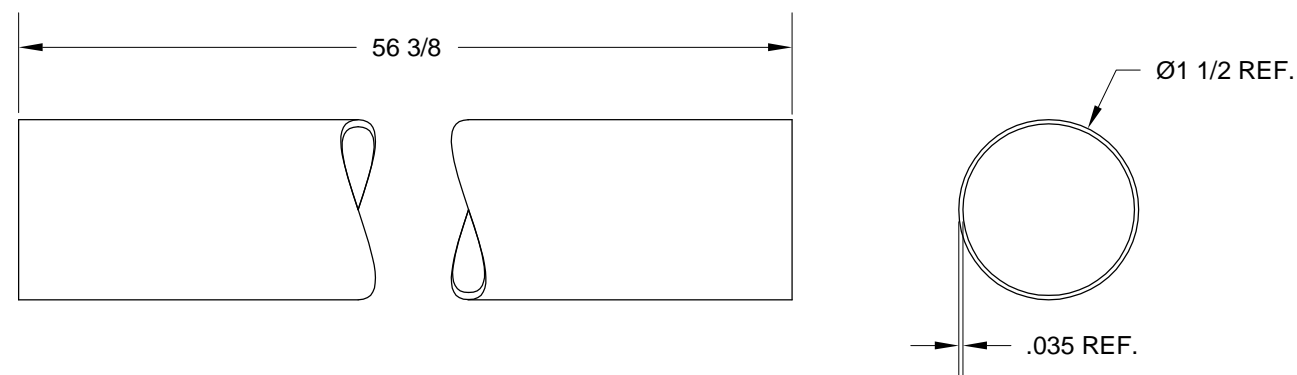

FIGURE 2:
Step 2: Fabricate one **F-1090** Elevator Pushrod (Mid) by cutting one piece of AT6-035 X 1 1/2 to the length shown in Figure 2.
Step 3: Cut-out Page 39-11, Figure 2 and use it as a wraparound template for locating the rivet holes in both ends of the **F-1090** Elevator Pushrod (Mid). Use clear tape to make the template into a ring and align it with the end of the pushrod. Center-punch the "cross hairs" in the wraparound template. Remove the template and use a #40 drill to make six pilot holes in each end of the pushrod. Deburr the hole edges on the inside of the pushrod tube.